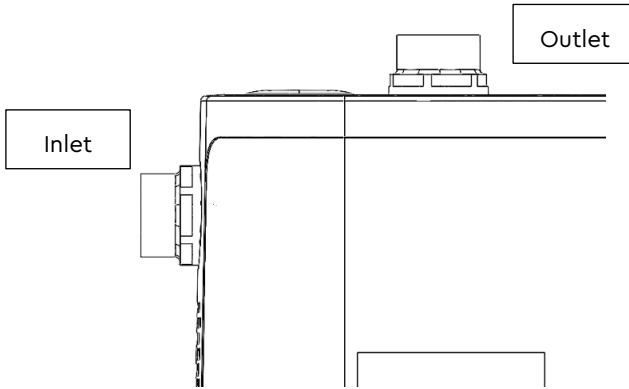

Figure 3 – Adaptor Install Step 1
- **Step 1 - Inlet/outlet brass compression adaptor:** Adapters must be fitted with the provided O-rings, and then installed to the inlet and outlet of the pump. The adapters must be screwed in until they bottom out at approximately 30N/m; there must be no gap between the sealing face of the pump and the external lip of the adapter – see figure 3.